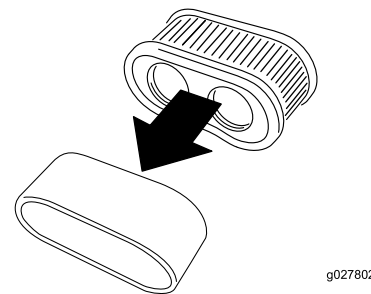

Figure 28
5. Remove the foam element from the paper element (**Figure 28**).